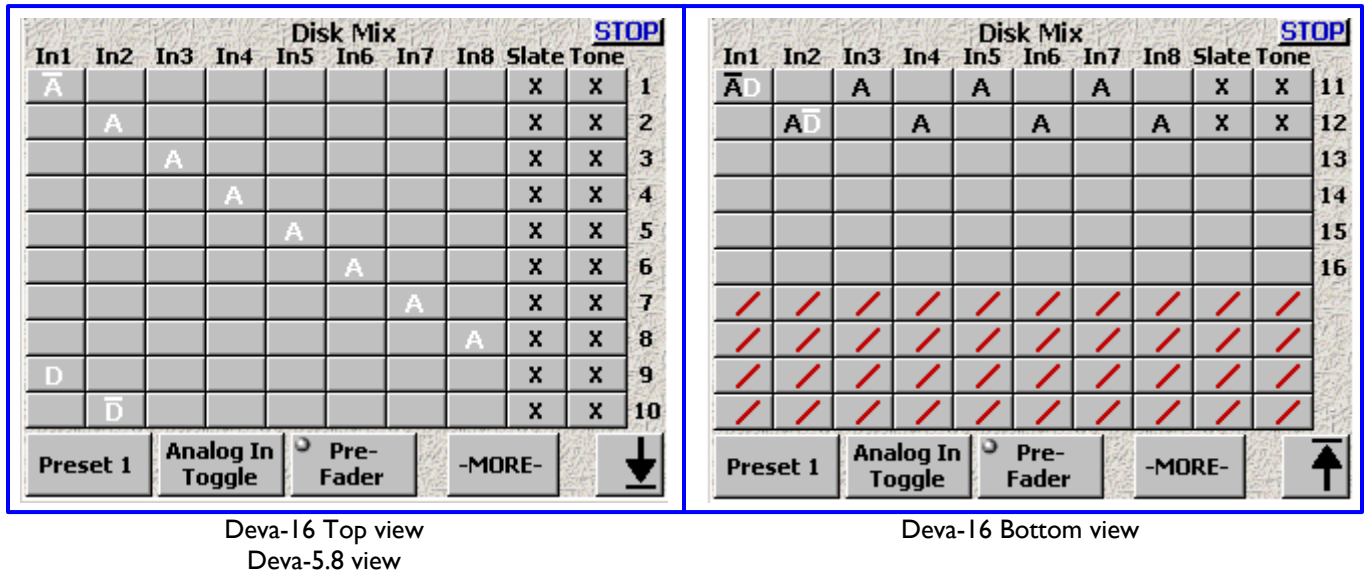

Figure 3-4 Disk Mix page
- **Figure 3-4** {above} shows a Deva-16 set up to record 8 analog pre-fader inputs to tracks 1 through 8, 2 digital pre-fader inputs recorded to tracks 9 and 10 and a post-fader mix to tracks 11 and 12. Analog input #1 and digital input #2 are inverted. The slate-mic and the tone generator are enabled for all tracks except 13 - 16.